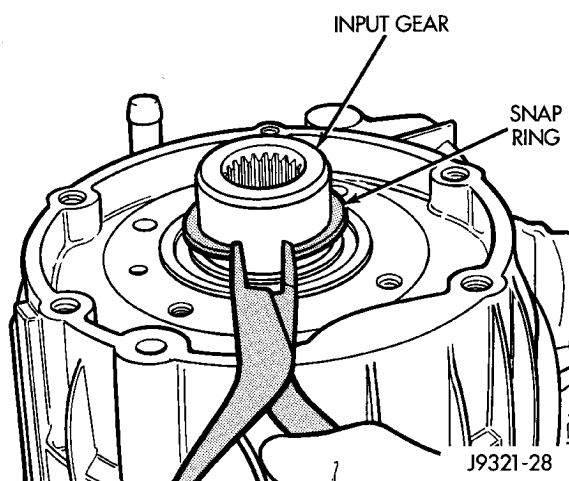

Fig. 57 Install Snap-Ring
(2) Install snap-ring to hold input/low range gear into front bearing (Fig. 57).